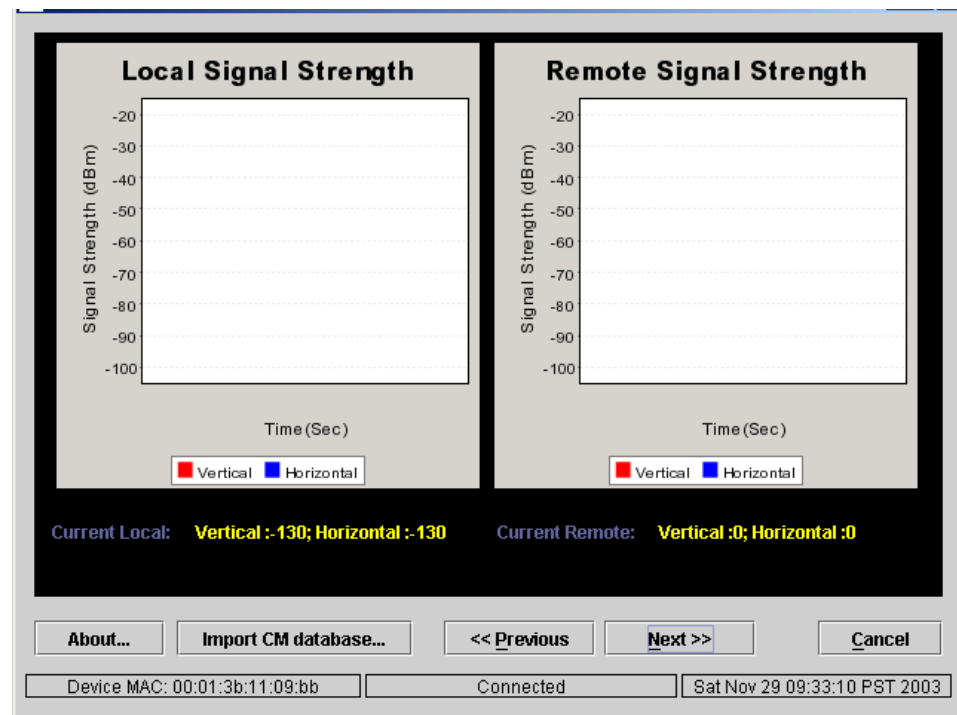

Figure 5-17 Link Status Window for PacketWave 200
3. The Link Status window shown in Figure 5-17 will be displayed, showing local signal strength (as received by the SU) and remote signal strength (as received and reported by the BSU) over time.